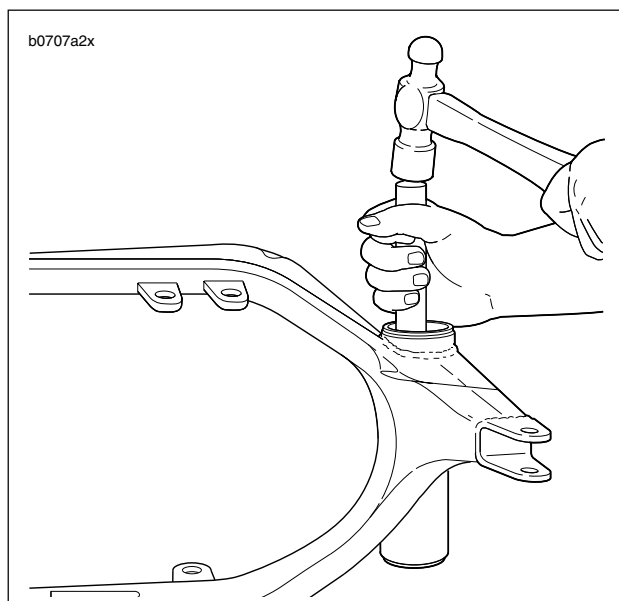

Figure 2-68. Removing Roller Bearing Cups
3. See Figure 2-68. Carefully press roller bearing cups from swingarm using STEERING HEAD BEARING RACE REMOVER (Part No. HD-39301A) and UNIVERSAL DRIVER HANDLE (Part No. HD-33416).